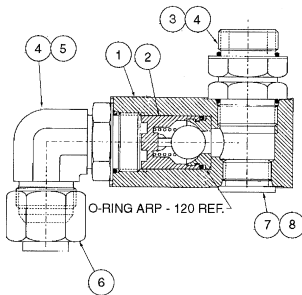

FIGURE 13
See figure 13: Lube O-ring on cartridge (2). Insert cartridge in body (1). Insert O-ring (4) on fitting (5). Install fitting in body (1) till it bottoms on cartridge, then back out to align with SAE-4 side connection. Lock in position to body (1). Insert O-rings (4) on fitting (3). Install fitting in body; with nut and washer to the outside. Install cap (6) on fitting (5). Install check valve in bottom drain connection of pump housing as shown in figure 17.
PARTS LIST FOR FIGURE 13